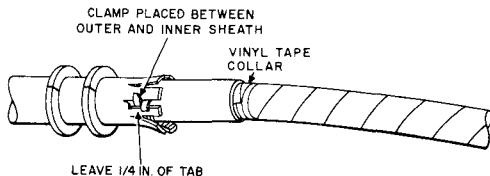

Fig. 11—Inner Clamp Placed
3.13 Slip the inner sheath clamp under the tabs with the ears extending from the slot from which the half tab was removed (Fig. 11). If a small cable is to be installed in the splice case, an inner sheath clamp of the proper size will be furnished with the adapter assembly (Fig. 3).